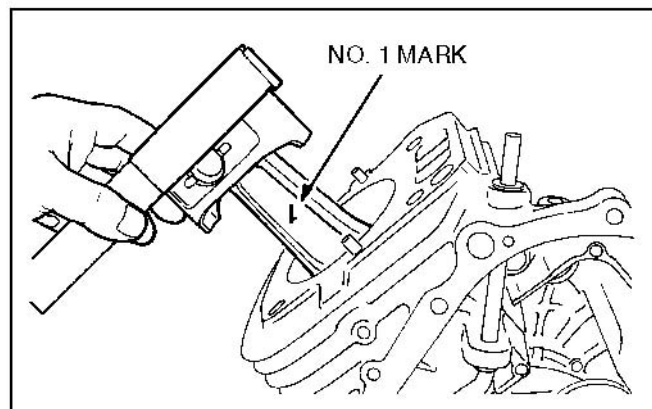

FIGURE 68. INSTALLING PISTON / ROD
1. Assemble the pistons and connecting rods using both circlips to hold the piston pin in the piston. Note that one connecting rod is marked "1" and the other "2" (Figure 68).